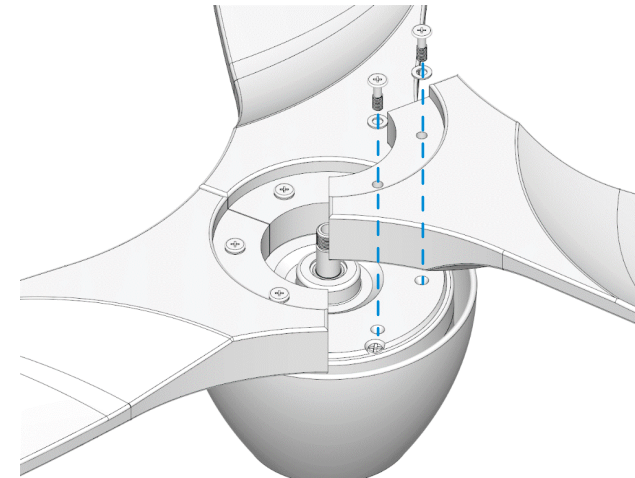

Fig. 2.1
2.1 Locate the blade attachment screws and washers included in the hardware pack. Use these screws and washers to firmly attach each blade to the motor hub, as demonstrated in Fig. 2.1.